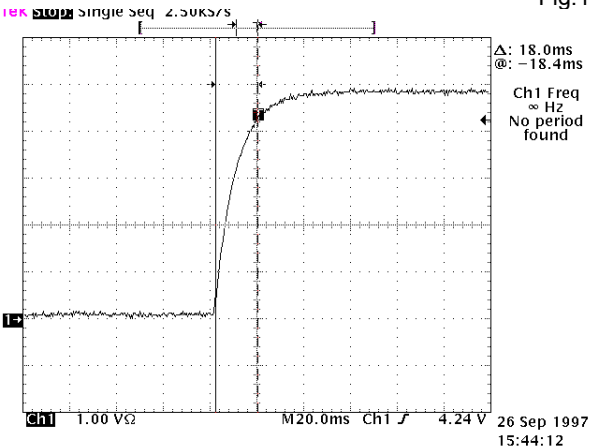
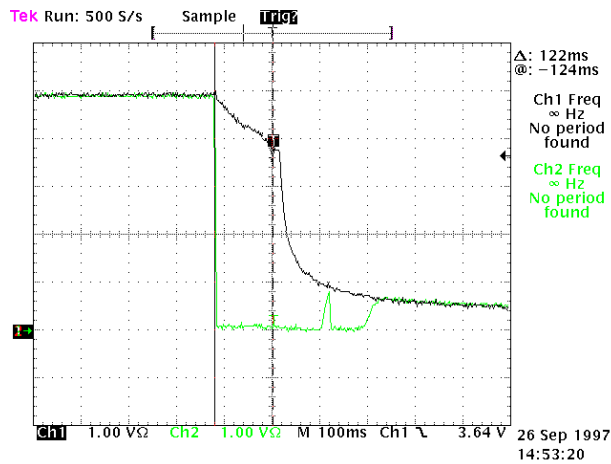

Fig.2 Power supply PWG rise(18ms)
Fig.4 Power supply Power Fail Delay time(122ms)
- Please refer to Fig.2 - Fig. 4 for scope timing.